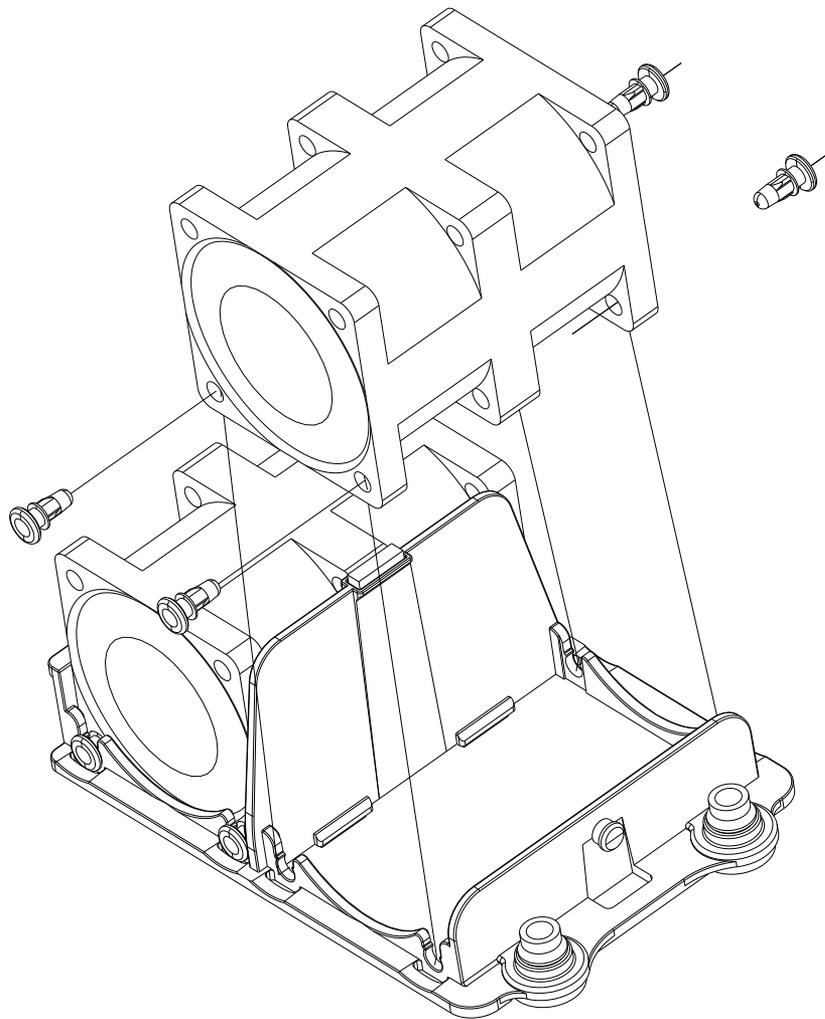

Figure 6-8 Individual Fan Remove/Replace Example
6. Place the new fan into the vacant space in the fan tray, while making sure the arrows on the top of the fan (indicating air direction) point in the same direction as the arrows on the other fans in the same fan tray. See Figure 6-8 on page 56 for a fan assembly example.